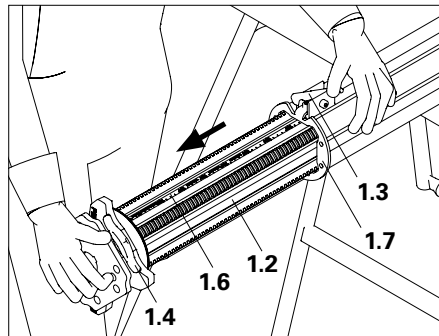

Fig. A1.01a
1. Press securing hook (1.3). The adjusting nut (1.4) is disconnected. (Fig. A1.01a)
2. Extend inner tube (1.2) to the required prop length. (Fig. A1.01a + A1.01b)